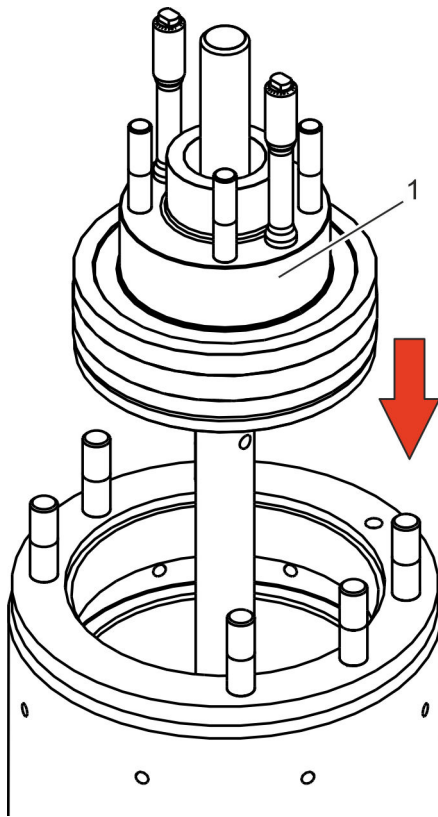

Fig. 46: Mount cover
33. Attach the cover (Fig. 46/1) onto the stem.